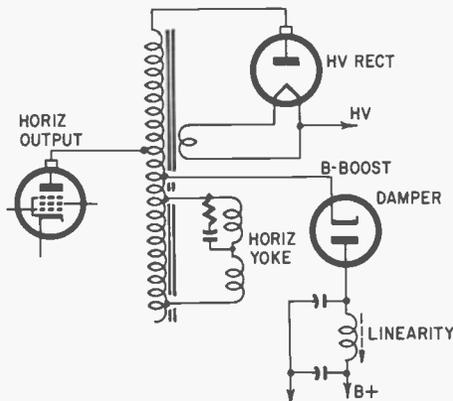

Fig. 807. Autotransformer type of horizontal output transformer.
2. The autotransformer circuit has only a single winding, and drives the yoke by connecting it across taps on that winding. B-plus is fed to the plate of the damper through the linearity coil. Boost voltage, of course, appears at the damper cathode and feeds the output tube plate through the flyback winding (Fig. 807).